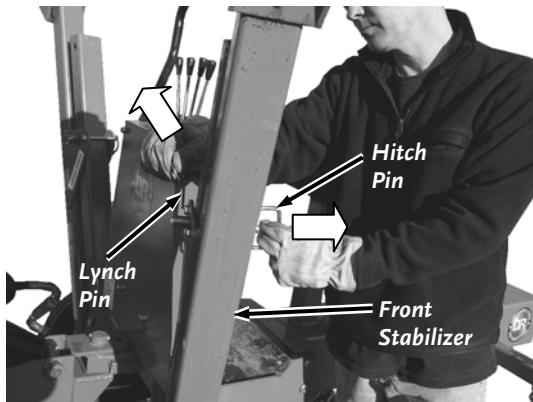

Figure 15
12. Pull the Front Stabilizer Lynch-Pin from the Hitch pin and remove the Hitch Pin (*Figure 15*).